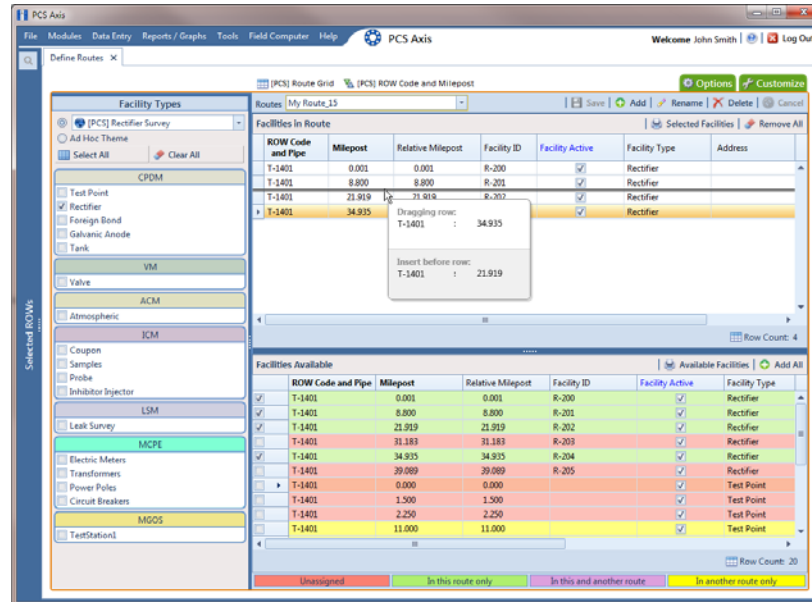

Figure 8-11. Arranging the Order of Facilities
- 2** Arrange the order of facilities listed in the *Facilities in Route* grid as needed using any of the following methods (Figure 8-11):
NOTE: A message displays when moving selected grid rows to confirm the new location in the grid (Figure 8-11, page 361).